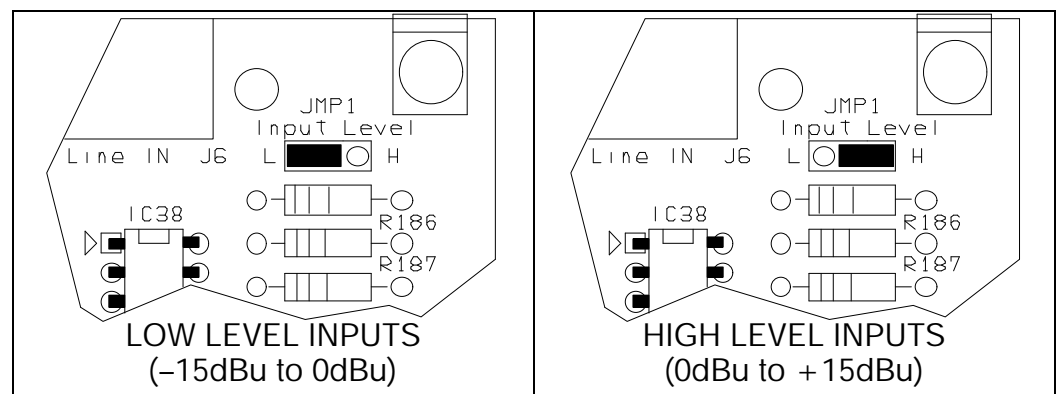

Figure 5 - LINE INPUT Range Selection
**Gain Jumper** The input range jumper strip is located just behind the LINE INPUT connector and identified as "JMP1" in the circuit board legend. The jumper has an H and an L marking to indicate the proper jumper placement for High level and for Low level inputs, respectively. Figure 5 illustrates these jumpering options.
INPUT GAIN	Input sensitivity of the Processor is adjusted by this 15-turn potentiometer to accommodate varying input levels. The control itself has 15dB continuous adjustment. This, coupled with input level range jumpering (Figure 5, Page 9), accommodates the 235’s full 30dB input signal level range. The INPUT GAIN control is set so that normal program material keeps the AGC indicator close to center-scale.